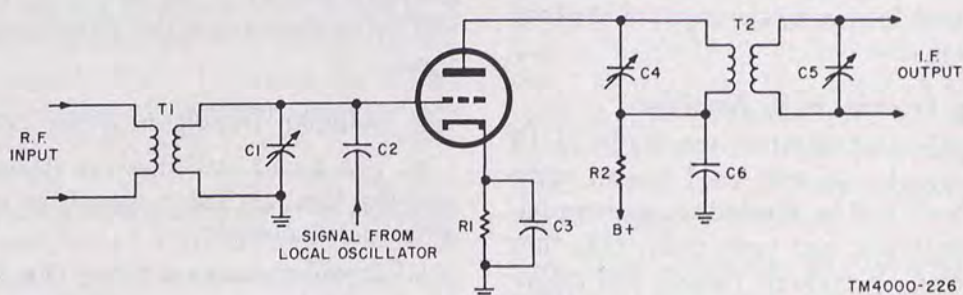

Figure 53. Triode mixer.
b. Troubleshooting a mixer (fig. 53) is similar in most respects to troubleshooting an RF stage. In addition, it is important to check coupling capacitor C2. If it should open, there would be no oscillator signal fed to the mixer grid, and the intermediate frequency would not be produced. As in the RF amplifier, it is necessary to keep the adjustments that tune T1 and T2 set to the proper frequencies, otherwise, the output will be weak or not present. Transformer T1 is tuned to the signal frequency and T2 is tuned to the difference between the incoming signal and the local oscillator frequency. Figure 53 shows a triode mixer; a pentode mixer will include a screen grid and suppressor grid; otherwise, the operation will be the same as the triode mixer.